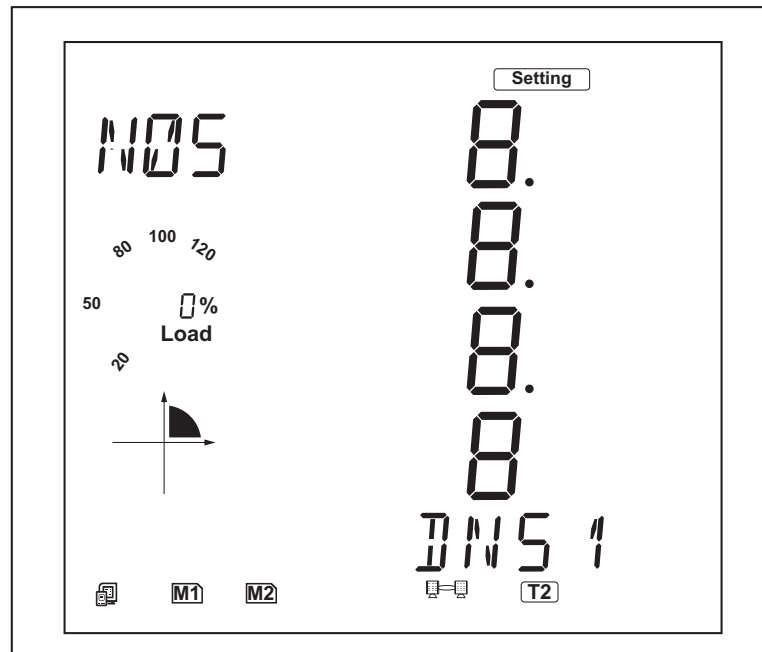

Figure 19: N05: DNS Primary Server
12. Press **P** to get to N05: DNS Primary Server for Ethernet port 1 (Figure 19 on page 19).